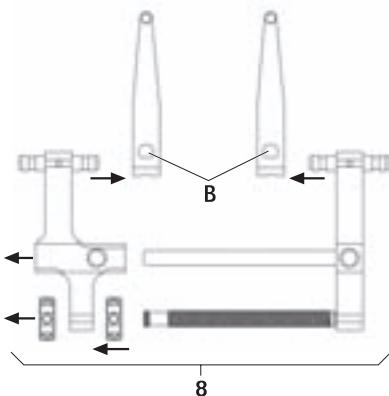

Fig. 4
- Dismantle distractor **8** with the distraction blades, see Fig. 4: Activate slider **B** and remove distraction blade FW239R.